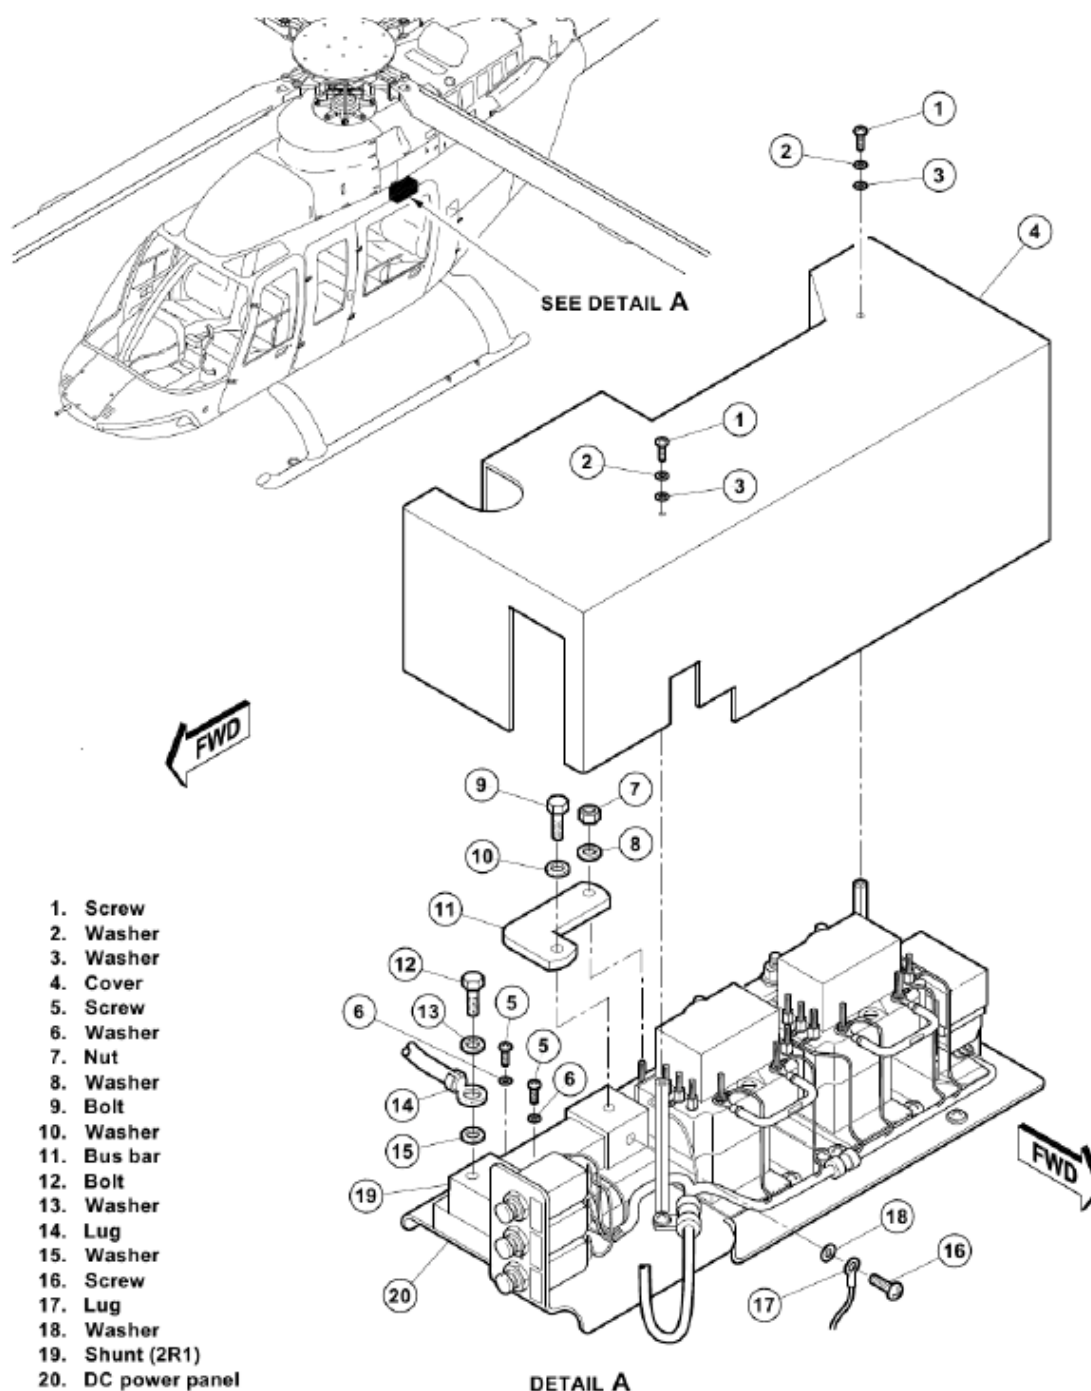

Figure 95-47: Shunt Resistor - Removal and Installation
3. Remove the screws (1, Figure 95-47) and the washers (2 and 3).
4. Remove the cover (4) from the DC equipment panel.
5. Remove the bolts (9 and 12), screw (16), washers (10, 13, 15, and 18), and lugs (14 and 17) from the shunt (2R1) (19).
6. Remove the nut (7) and washer (8) from the bus bar (11).
7. Remove the bus bar (11) from the terminal of the shunt (2R1) (19).
8. Remove the screws (5 and 16) and washers (6 and 18) from the shunt (2R1) (19).
9. Remove the shunt (2R1) (19) from the DC equipment panel.
3. Install the shunt resistor (2R1) (19, Figure 95-47) on the DC equipment panel.
4. Install the screws (5) and washers (6) that attach the shunt (2R1) (19) to the DC equipment panel.
5. Install the lug (14) on the shunt (2R1) (19) with the bolt (12) and washers (13 and 15).
6. Install the lug (17) on the shunt (2R1) (19) with the screw (16) and washer (18).
7. Install the bus bar (11) to the terminal on the shunt (2R1) (19) with the bolt (9) and washer (10).
8. Attach the bus bar (11) to the DC power panel with the nut (7) and washer (8).
9. Install the cover (4) on the DC equipment panel.